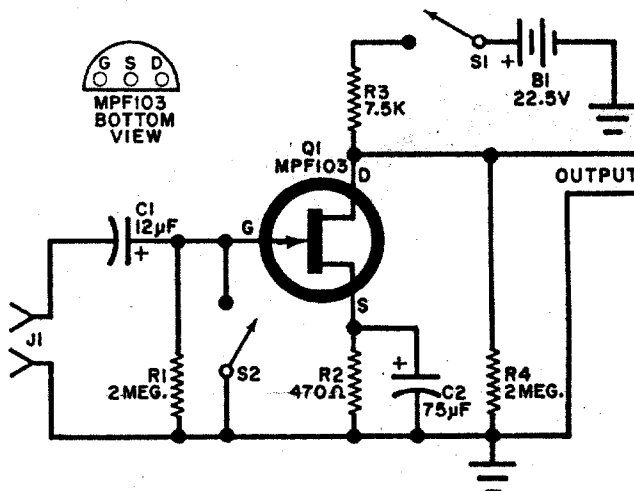

Fig. 2. Output level of the bridge is very low and this special pre-amplifier may be required. Capacitor C1 is made of tantalum foil.
**Construction.** The PPG is divided into three cable-connected sections: the finger-mounted transducer assembly, the measuring bridge, and a FET signal preamplifier (optional). The circuit for the transducer and bridge is shown in Fig. 1 and the schematic for the FET preamplifier is shown in Fig. 2.
Because the bridge output is a low-level, low-frequency signal, the FET preamplifier shown in Fig. 2 may be used to increase the signal level to a point usable by some scopes. This preamplifier is a conventional FET stage having the required very high input impedance so as not to reduce the low-frequency coupling ( $C1$ ) at these one-to-two-Hz subaudible frequencies.
**Preamplifier.** The approximate bridge output amplitude of a PPG signal is 0.05-volt peak to peak. Your scope should have a vertical sensitivity of at least 10 mV per cm (25 mV per inch) at one to two Hz. However, if your scope does not have this sensitivity, the FET preamplifier (schematic in Fig. 2) should be built.
off in a bipolar transistor or vacuum tube. Therefore, after placing your finger in the transducer, you might have to wait fifteen seconds before the amplifier commences functioning and the signal appears on the CRT. To partially eliminate this delay, a momentary-contact switch ( $S2$  in Fig. 2) is connected across  $R1$ . With this switch closed,  $C1$  will charge in a fraction of a second. When you release this switch, the amplifier should function immediately.